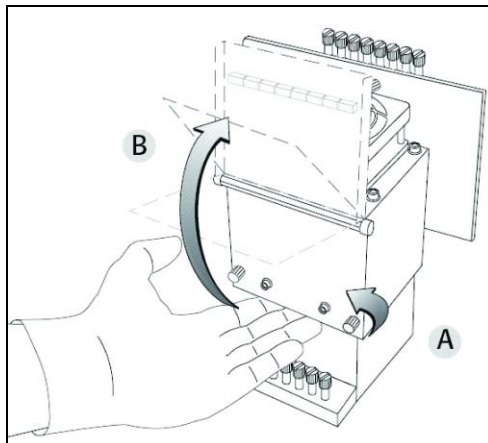

Figure 6-60: Opening the print-head compartment
- a. Open the print head compartment (see figure 6-60 on page 42).